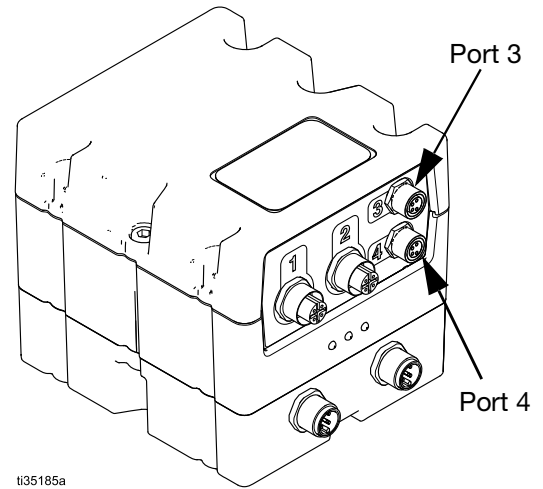

FIG. 10 ProDispense FCM Ports 3 and 4
3. Attach one branch (see B in FIG. 7) of the Y-split cable (7) provided to Port 3 or 4 on the FCM3 (see FIG. 10).